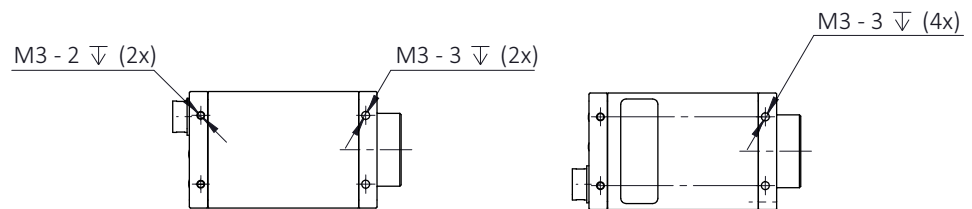

Figure 125: Mounting threads on top and bottom of housing
- It is important to consider the maximum intrusion depth of the M3 mounting holes (see Figure 125). Using longer screws can damage the threads or bottom plate and will reduce the strength of the joint.